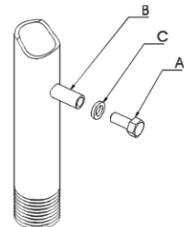

Fig. 1
a) *Flow pressure control (fig. 1)*